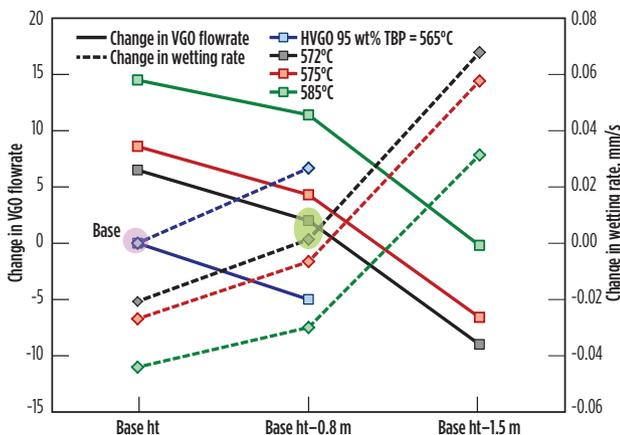

FIG. 2. Impact of slop-wax bed height on recovery.
Case studies. The study was repeated for three bed heights, as shown in FIG. 2. The slop-wax bed height was varied by reducing the stages. At a constant 95% TBP wt point of the HVGO, as the height of the slop-wax bed is decreased, the HVGO yield also decreases and the wetting rate increases. For a given slop-wax bed height, as the HVGO draw rate increases, its 95% point increases while the required HVGO internal reflux, and, thus, wetting rate decreases. The Base Case point is circled, as shown in FIG. 2.
From FIG. 2, with the existing slop-wax bed, as the VGO yield increased by 8.6 tph by decreasing internal reflux (IR) and specifying VGO 95% TBP wt point as 575°C, the wetting rate decreased by 0.027 mm/s. As compared to the Base Case, there are concerns for potential rapid coking of the bed, and, thus, deteriorating operating conditions. Increasing the VGO 95% TBP wt point to 585°C by increasing the VGO yield to 14.5 tph worsens operating conditions due to the reduced wetting rate by 0.044 mm/s from the Base Case.
To maintain specified VGO 95% TBP wt. point, as the bed height is reduced, the HVGO IR rate must be increased, which decreases the VGO yield but increases the wetting rate of the packing. This defines the zero line, as shown in FIG. 2, which determines the maximum VGO yield achievable for a fixed
The bed height can be altered to attain a maximum yield of VGO from the vacuum column while maintaining the same wetting rate as the Base Case and the HVGO 95% TBP wt point within reasonable limits with respect to the metals content in the final VGO product. Reducing the distance between VGO yield and wetting rate curves is necessary to attain the required results. In this case, the additional 2 tph of HVGO flow can be attained with the HVGO 95% TBP wt at 572°C while sustaining the same wetting rate as that of the Base Case when the bed height is reduced by 0.8 m, as shown in **FIG. 2**.